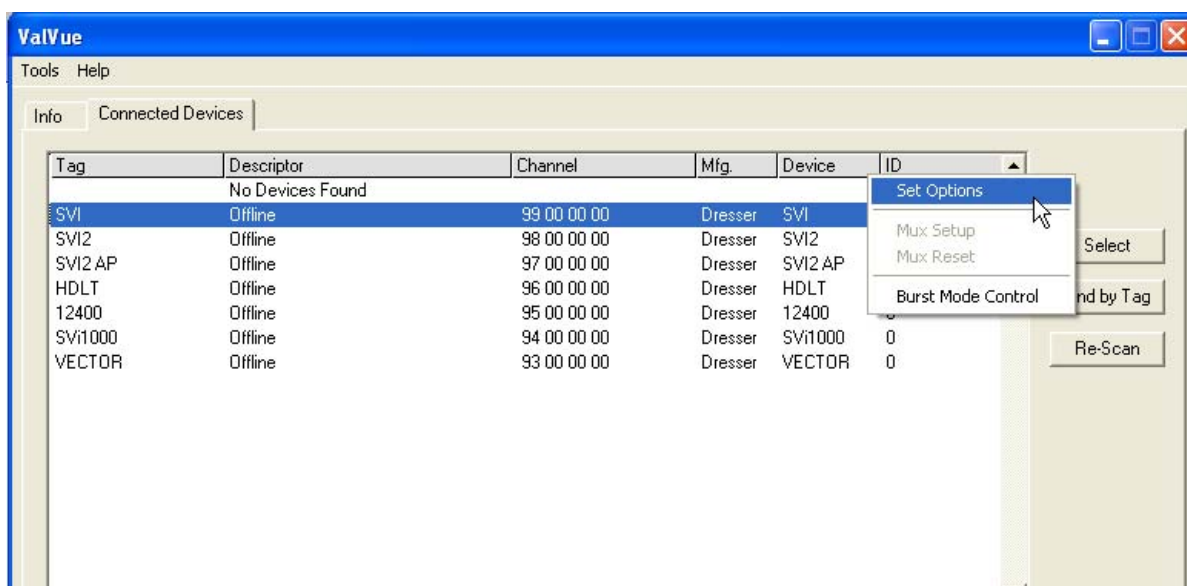

Figure 25 Selecting Set Options
1. Right-click on the **Connected Devices** page, in the gray area (Figure 25).